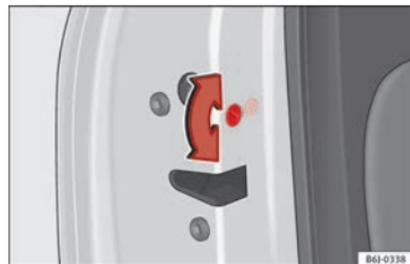

Fig. 129 Childproof lock on the left hand side door.
- With the door open, rotate the groove in the door using the ignition key, anti-clockwise for the left-hand side doors »» **Fig. 129** »»
» Fig. 129.